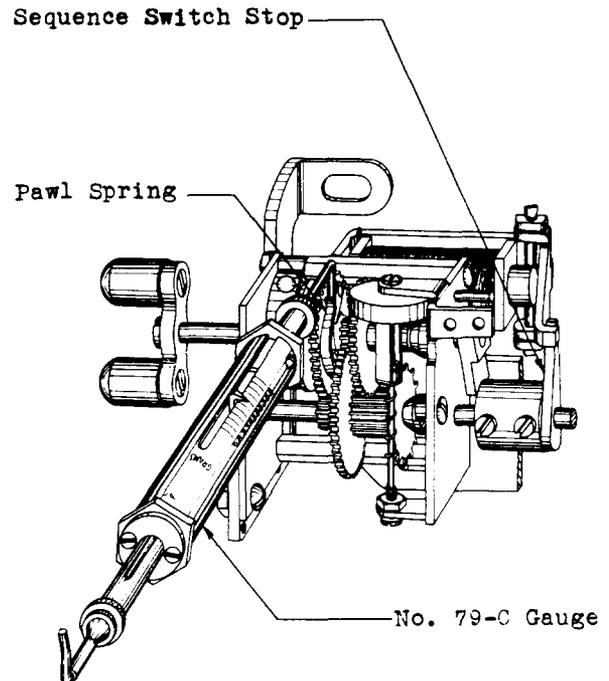

Fig. 14 – Method of Measuring Pawl Spring Tension with the No. 79-C Gauge
(1) To check the tension of the pawl spring, apply the No. 70-C gauge to the end of the spring as shown in Fig. 14.